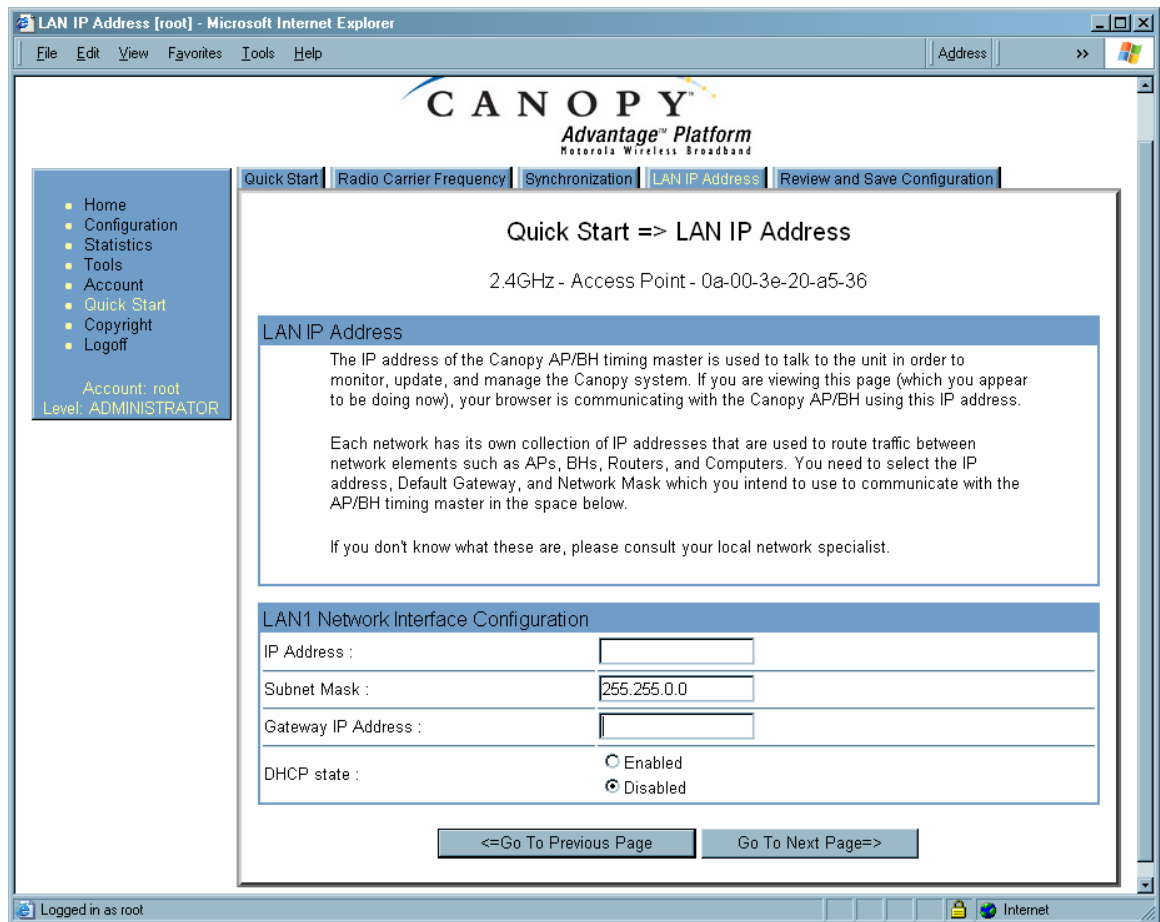

Figure 61: LAN IP Address tab of AP, example
- RESULT:** The AP responds by opening the LAN IP Address tab. An example of this tab is shown in Figure 61.